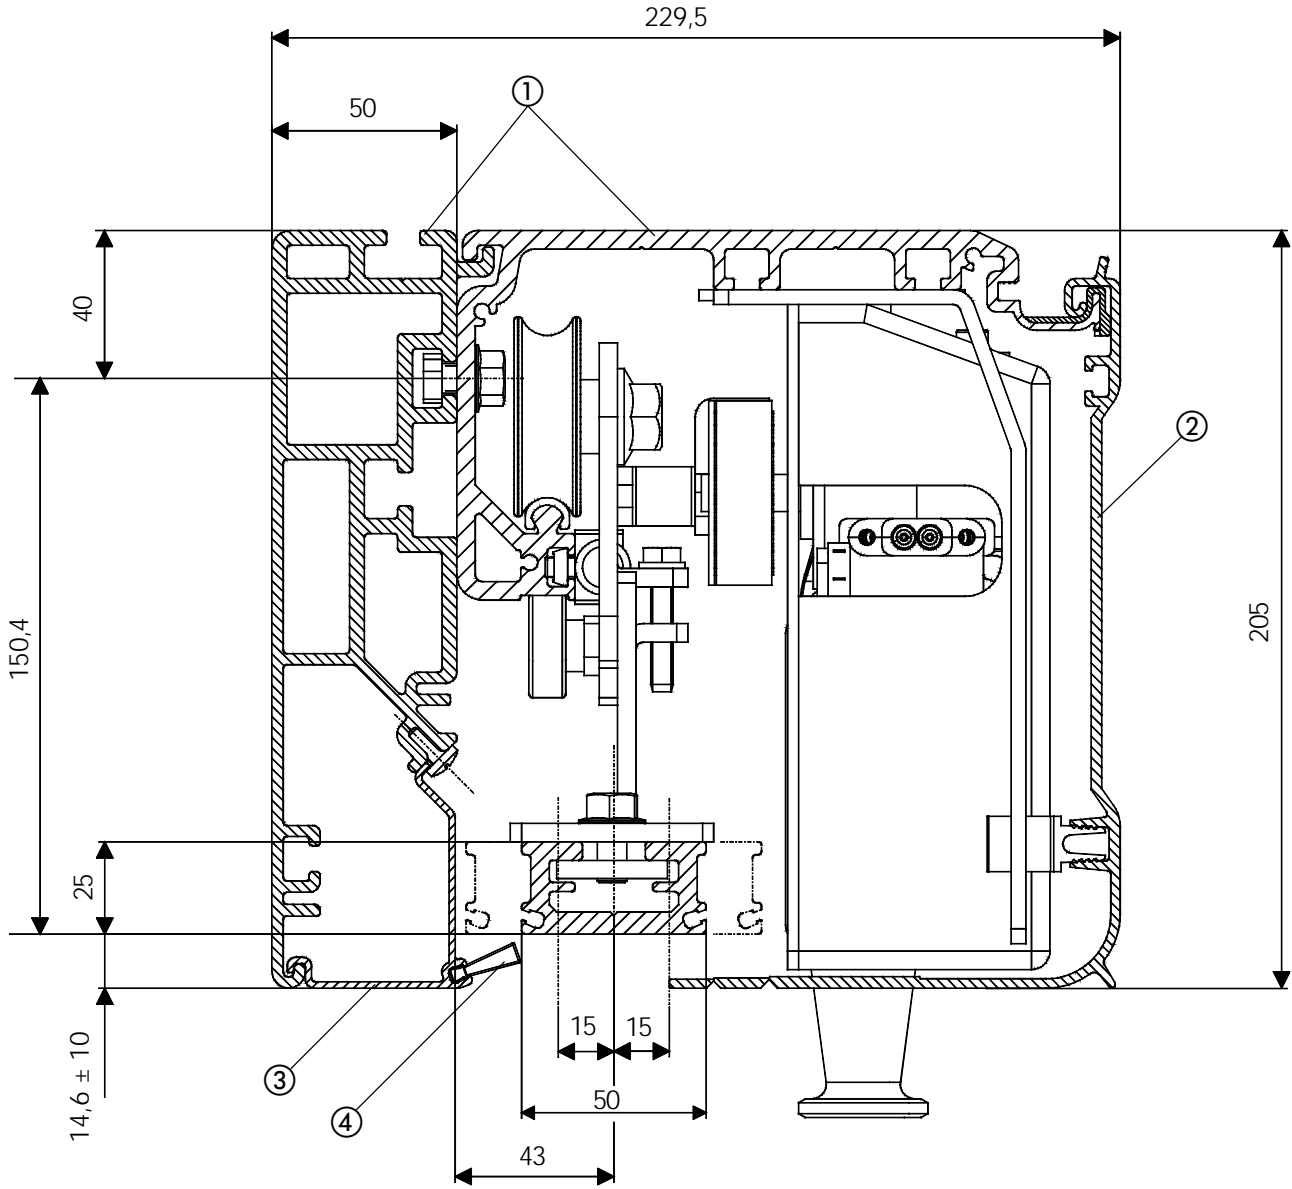

Fig. 2
### Profile SM (fig. 2 ref. ①)
#### Front housing (figs. 2 and 3 ref. ②)
#### Brush for closing profiles (figs. 2 and 3 ref. ④)